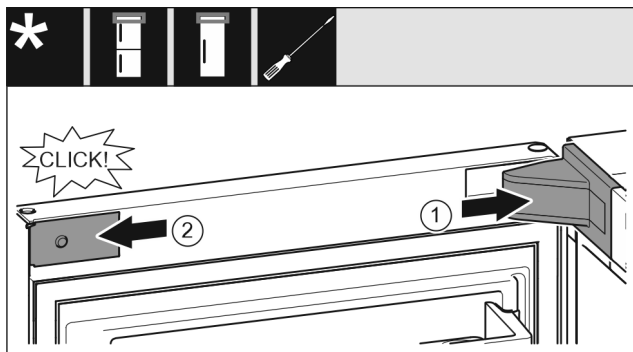

Fig. 25
- ▶ Position the swap bearing block cover Fig. 25 (1) and snap it in. You may need to push it carefully apart.
- ▶ Attach the panel Fig. 25 (2) from the side and snap it on.